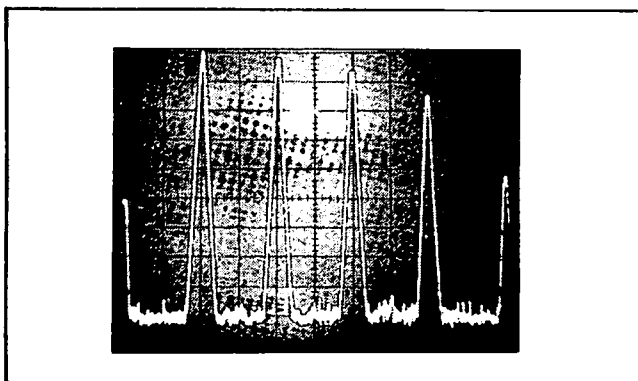

Figure 5-1. 10 kHz CAL Signal.
b. The 10 kHz CAL signal and its harmonics should be repetitively swept and appear on the display as shown by Figure 5-1. The separation between the Zero Response and 50 kHz harmonic should be 10 major divisions \pm 1 minor division. The separation between any two adjacent responses should be 2 major divisions \pm .2 minor divisions. Momentarily push and release DISPLAY - STORE, watching the display to verify that the STORE and NON-STORE traces appear in the same position.